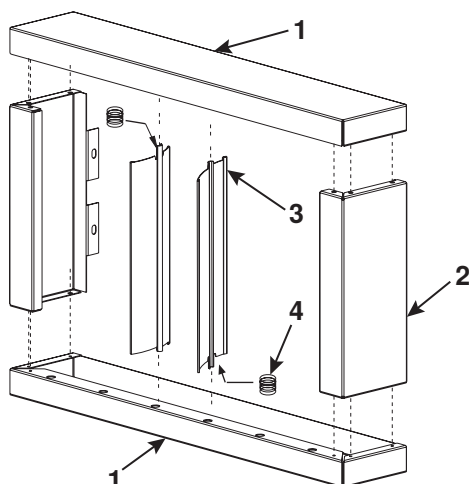

Figure 34. Vertical Louver Assembly—RV Models, Unit Sizes 225 and 325 (Refer to Table 22)
- The vertical louver assembly for RV models—unit sizes 225 and 325—is shown in Figure 34.